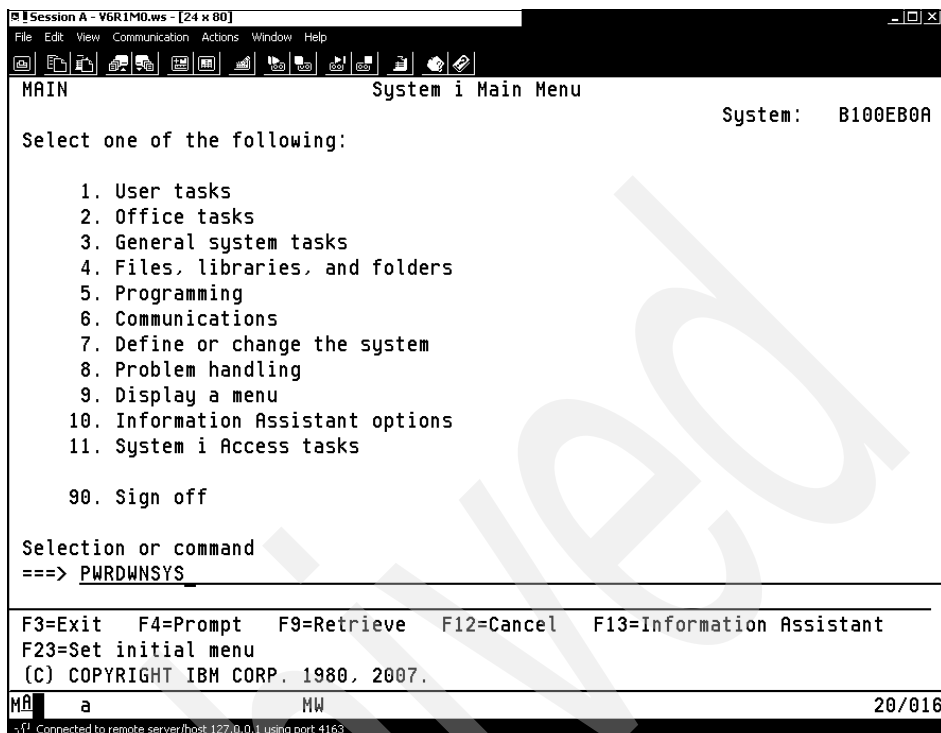

Figure 5-58 IBM i power down partition
3. Execute the command **PWRDWSYS** in the command line, as shown in Figure 5-58 on page 280.